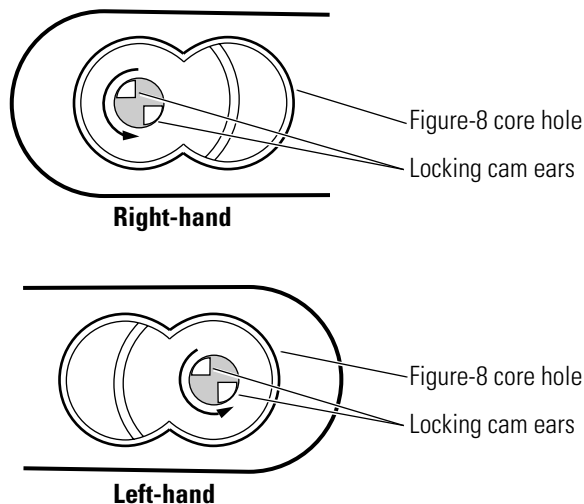

Figure 3.33 Correct position of the C function inside locking cam
- Before you install the core and throw member, you can see that the inside locking cam is not positioned as shown in Figure 3.33. Perform the following steps to reposition the inside locking cam.
1. Looking into the figure-8 core hole in the inside lever, turn the locking cam ears counterclockwise to match the position shown in Figure 3.33.